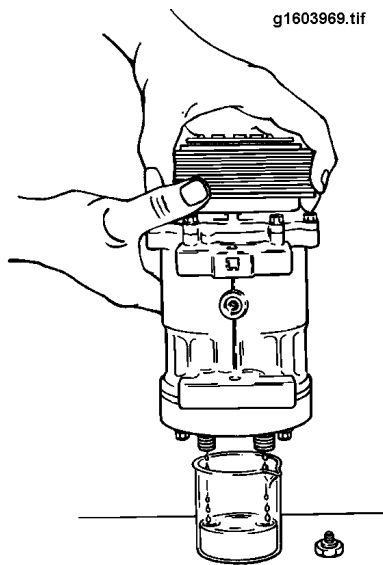

Figure 69 Drain Oil While Turning Shaft
5. Drain remaining compressor oil from the suction and discharge ports, into the calibrated container, while turning the shaft (clockwise only) by hand or with a socket wrench on the armature retaining nut (refer to Figure 69). Replace the caps on the suction and discharge ports.